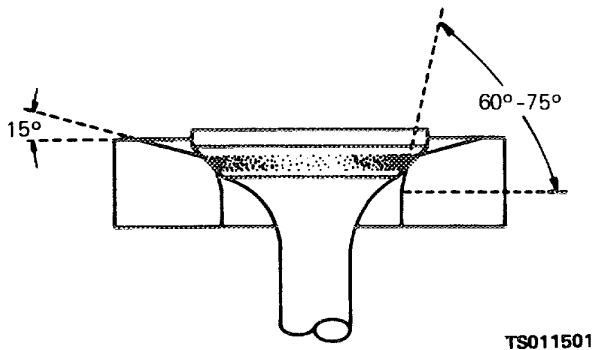

Figure 4-5. Narrowing valve seat.
(9) Grind the valve seats. The seat angle of the intake valve is 30°. The seat angle of the exhaust valves is 45°. Use a dial indicator to check the valve seat for runout. The total indicator reading must not exceed 0.002 inch (0.0050 cm). Clean the valve seat and surrounding area thoroughly after grinding.
(10) After you have refaced and reground the valves and seats, coat each seat lightly with Prussian blue and drop the valve into place, oscillating it slightly to transfer the blue pattern to the valve face. This should show a contact width of 1/16 to 3/32 inch (0.1562 to 0.2342 cm), and should fall well within the width of the valve face, leaving at least 1/64 inch on either side of the contact area. If the contact area is greater than 3/32 inch (0.2342 cm), narrow the contact area by grinding the outside diameter of the seat with a 15° stone or by grinding the inside diameter of the seat with a 60° or 75° stone (fig. 4-5). After the